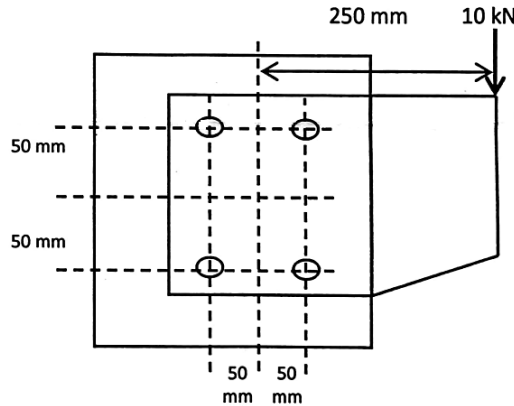

Fig.1
Q.1 Draw the SFD & BMD for the fixed beam as shown in figure 1. 13